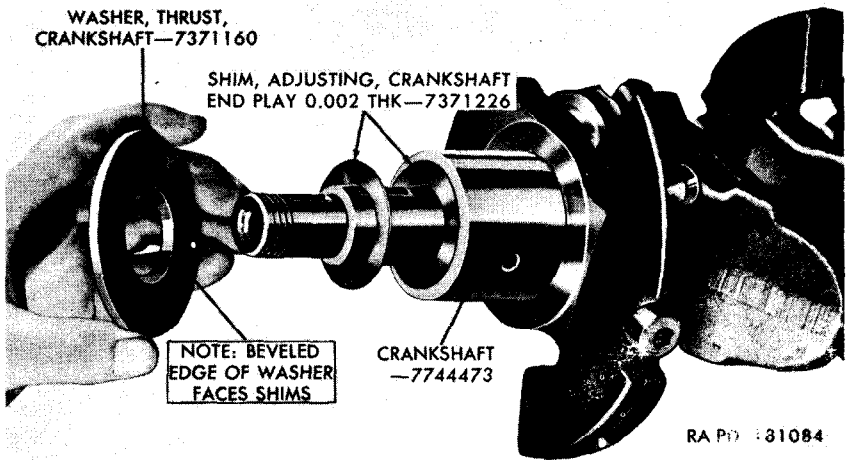
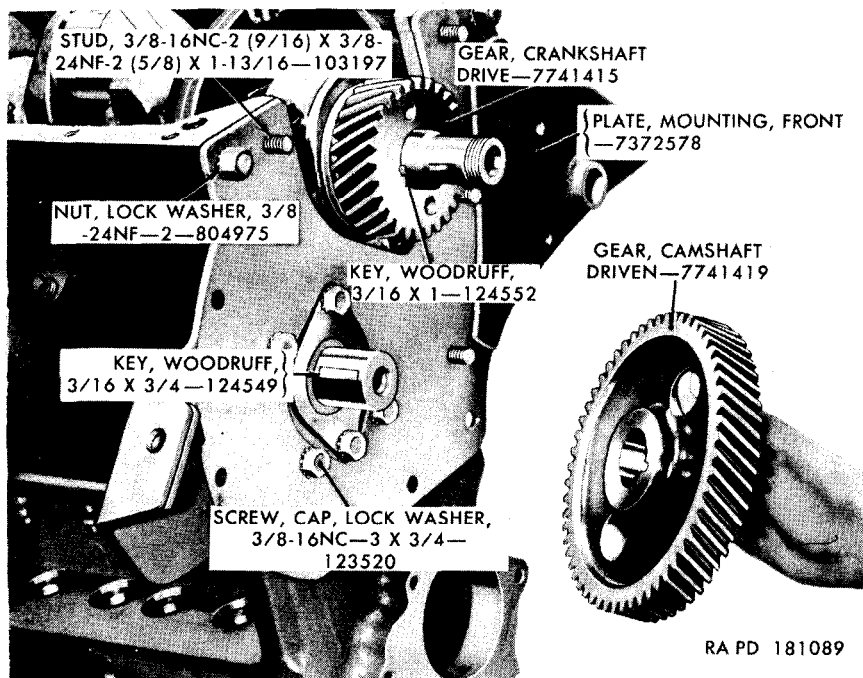
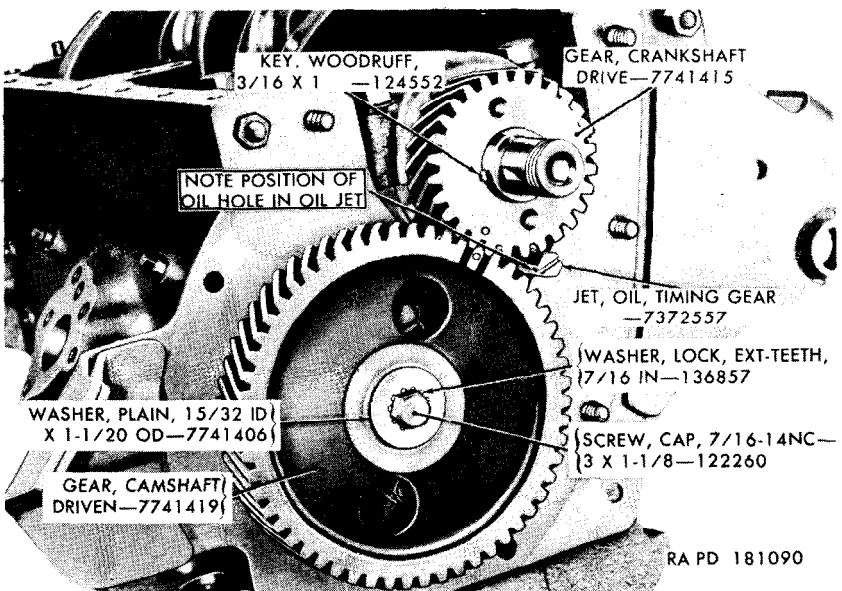

Figure 73. Crankshaft end play adjusting shims and thrust washer.
Figure 78. Installing camshaft driven gear.
Figure 79. Crankshaft drive and camshaft driven gears (timing gears).
b. Stand the crankshaft upright on the rear (flanged) end on a clean solid surface. Install three 0.002-inch crankshaft end play adjusting shims (fig. 73) and the crankshaft thrust washer on the front end of the crankshaft. Install the thrust washer so that the inner beveled edge faces the rear end of the crankshaft.
c. Install the $\frac{3}{16}$ x 1 crankshaft drive gear woodruff key (fig. 78) in the longer of the two key slots on the front end of the crankshaft. Install the crankshaft drive gear on the front end of the crankshaft with the timing mark "0" facing out, away from the cylinder block. Align the keyway in the gear, with the key installed in the shaft, and drive or press the gear onto the crankshaft and firmly against the thrust washer.
b. Coat both sides of the mounting plate to cylinder block gasket with liquid type gasket cement and install the gasket over the mounting plate studs. Install the front mounting plate and secure in place with two $\frac{3}{8}$ -24NF-2 lock washer nuts (fig. 78) and three $\frac{3}{8}$ -16NC-3 x $\frac{3}{4}$ lock washer cap screws. Coat the threads of cap screws with plastic type gasket cement before installing.
a. Install the $\frac{3}{16}$ x $\frac{3}{4}$ camshaft driven gear woodruff key (fig. 78) in the key slot in front end of the camshaft.
b. With the woodruff key in the camshaft and the key slot in the camshaft driven gear (fig. 78) in alignment, start the camshaft driven gear onto the camshaft with the wide hub of the gear facing out, away from the cylinder block. Turn the camshaft or the crankshaft as necessary to bring the timing marks "0" (figs. 73 and 80) in both gears together. Slide the $\frac{7}{16}$ -inch external teeth lock washer (fig. 79) and the $\frac{15}{32}$ ID x $1\frac{1}{20}$ OD plain washer onto the $\frac{7}{16}$ -14NC-3 x $1\frac{1}{8}$ cap screw and thread the cap screw into the front end of the camshaft. Tighten the cap screw to 30 to 40 pound-feet torque, pressing the gear onto the front end of the camshaft in the process.
Install the timing gear oil jet (fig. 79) in the tapped hole in front of the cylinder block. Position the oil hole in the side of the oil jet so that it will direct the oil stream against the camshaft driven gear just ahead of the point of its engagement with the crankshaft drive gear.
- (2) Because the tang and the slot are both machined off center, the two shafts can be meshed in only one position.
- (3) Since the position of the distributor shaft determines the “timing” of the engine, and since the position of the distributor shaft is determined by the position of the oil pump shaft, the position of the oil pump shaft with respect to the camshaft is critical.
b. Turn the crankshaft as necessary to bring the timing marks “0” on the crankshaft drive and camshaft driven gears together (fig. 79).